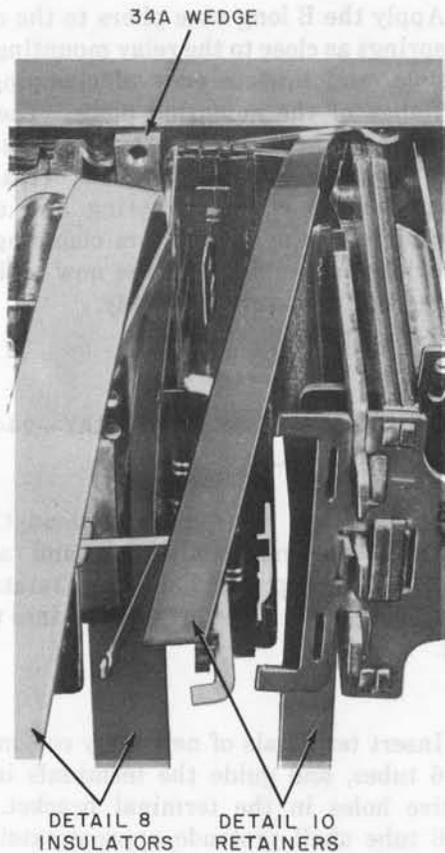

Fig. 23—Detail 10 Retainers in Place
4.58 Apply the B long-nose pliers to the clamping springs as close to the relay mounting bracket as possible and squeeze ends of clamping spring to the flange of the mounting plate. Then insert detail 10 retainer between clamp spring end and mounting bracket as shown in Fig. 23. Use one retainer for retaining the top clamping spring and a second detail 10 retainer for retaining the bottom clamping spring. This provides accessibility for new replacement coil, core, and armature assembly.
- 4.81 Apply the B long-nose pliers to the clamping springs as close to the relay mounting bracket as possible, and squeeze ends of clamping spring to the flange of the mounting plate. Then insert detail 10 retainer between clamp spring and mounting bracket. (See Fig. 23). Use one retainer for retaining the top clamping spring and a second retainer for retaining the bottom clamping spring. This provides accessibility for the new replacement coil, core, and armature assembly.
- 4.103** Apply the B long-nose pliers to the clamping springs as close to the relay mounting bracket as possible, and squeeze ends of clamping springs to the flange of the mounting plate. Then insert detail 10 retainer between clamp spring and mounting bracket. (See Fig. 23). Use one retainer for retaining the top clamping spring and a second retainer for retaining the bottom clamping spring. This provides accessibility for the new replacement coil, core, and armature assembly.